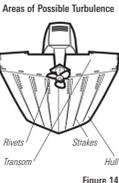

Figure 14
- The best way to locate turbulence-free water is to view the transom while the boat is moving. This method is recommended if maximum high-speed operation is a high priority. If this is not possible, select a location on the transom where the hull forward of this location is smooth, flat and free of protrusions or ribs (Figure 14).